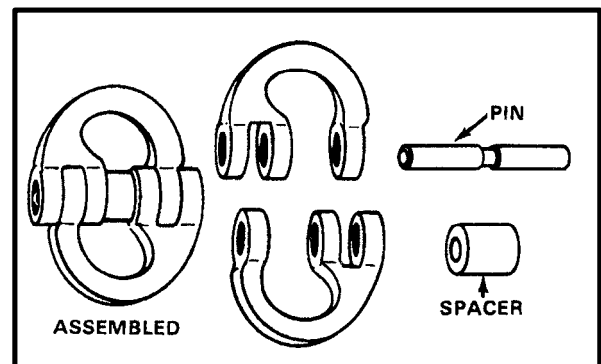

Figure 6-16. Coupling Link
(1) Place the spacer inside the sling leg eyelet and position the sling leg in the grabhook opening. Install pin through grabhook and spacer so the head of the pin is on the keeper side. Reinstall the snap ring. Do not reuse a snap ring if it does not seat uniformly into the snap ring groove.
(2) Position the long end of the keeper spring against the inside edge of the keeper with the short end against the pin.
(3) Position the small end of the keeper so that the notch cut is centered on the protruding portion inside the hook. Push down on the other end of the keeper to align the holes.
(4) Use a pointed tool, such as an ice pick or awl, to help align the spring, grabhook, and keeper. Slowly withdraw the tool as you install the roll pin or bolt.
(5) Install the nut on the bolt. Do not overtighten the nut because the keeper must be free to move.
**i. Removing and Reinstalling Coupling Links.** Removing and reinstalling the coupling link is a simple operation. Use a hammer and a small pin punch to remove the securing pin from the coupling link or hammer lock. A spring inside the spacer secures the pin. Drive out the pin. Reassemble the coupling link in reverse order of disassembly. Replace the coupling link if the spring does not secure the pin inside the spacer. Figure 6-16 shows the coupling link that is used to attach the chain leg to the grabhook.